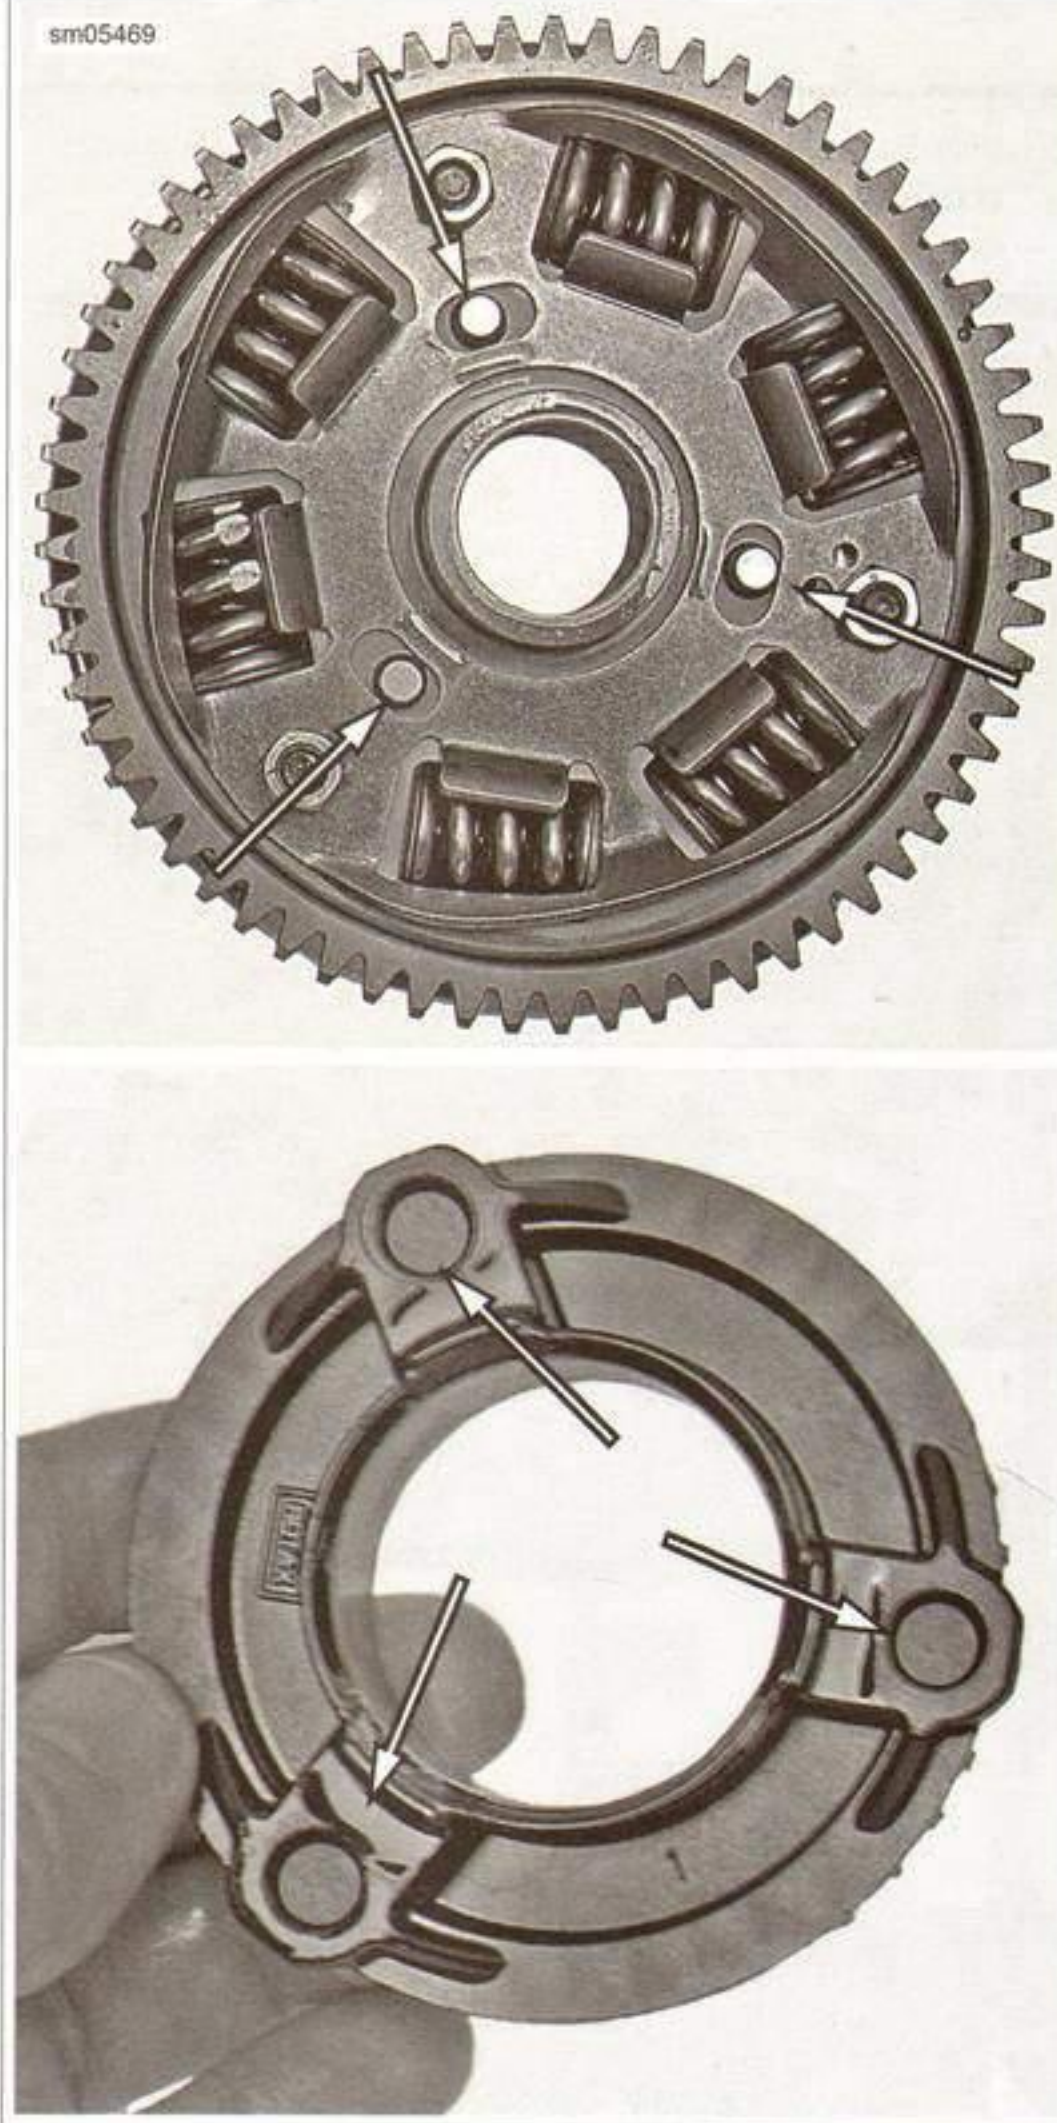

Figure 6-60. Matching Oil Pump Gear Features
14. See Figure 6-60. Match the holes on the inside of the oil pump gear to the pegs on the primary drive gear.